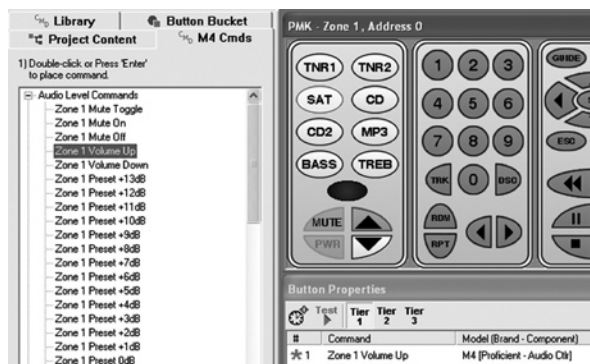

Figure 35 Placing M4 Internal Commands on Key Command Lists
When placed in a key's Command list, they are prefixed by a large **red asterisk (\*)** symbol as shown in **Figure 35**. A description for programming these commands follows:
These consist of Mute, Volume and Preset Audio Level commands for each zone. Refer to **Figure 35**.
2. Double-click Zone 1 Volume Up to place it in the Command list. **See Figure 35**.